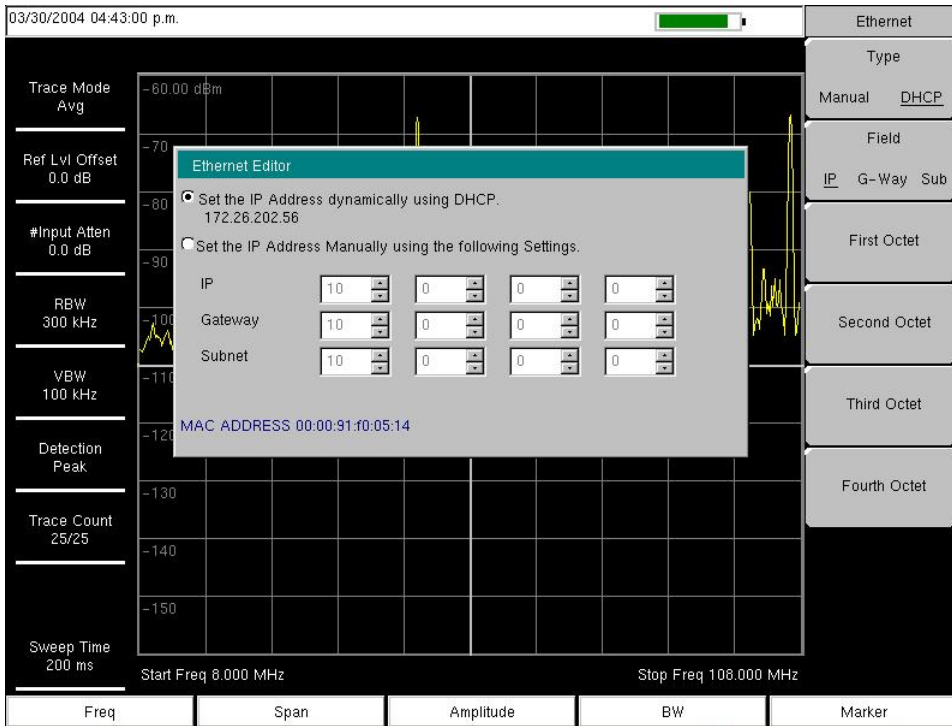

Figure C-1. IP Address Assigned Using DHCP
To display the IP address with the instrument on, press the **Shift** key, then the **System** (8) key, then the System Options soft key and the Ethernet Config soft key. The IP address will be displayed as shown in Figure C-1. The image on the display panel of your BTS Master may differ from the image shown here.